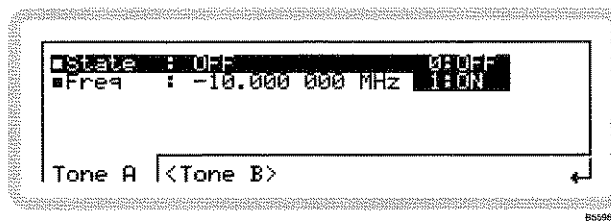

Fig. 3-44 Tones modulation
- 2 Press **SIG GEN** to show the main screen, and touch the **IQ** soft box to select the function. Touch **Tones** and press **↵** to view the Tones menu (Fig. 3-44).